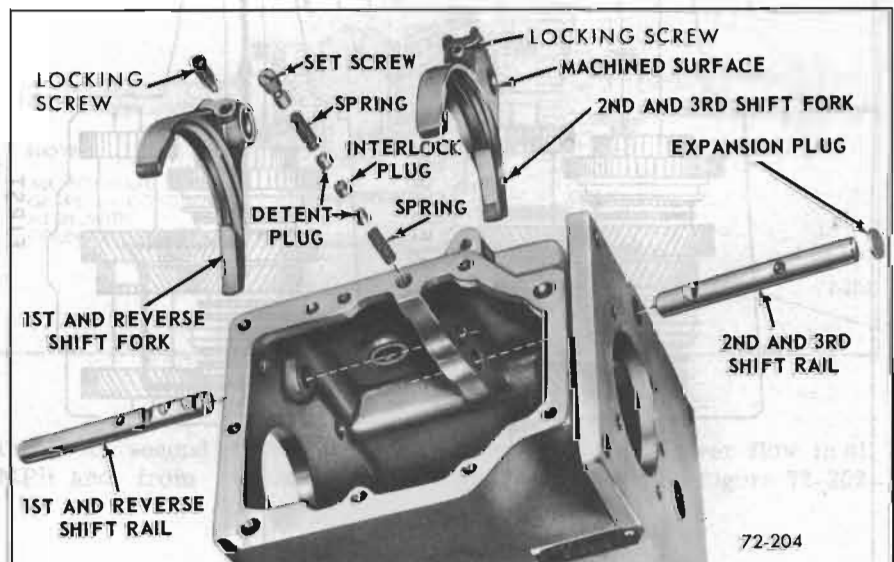

Figure 72-204—Shift Rails, Forks, and Detent Plugs
6. Remove set screw, spring, interlock plug, detent plugs, and spring. See Figure 72-204.
7. With transmission in neutral, remove shift fork to rail locking screws. See Figure 72-204.